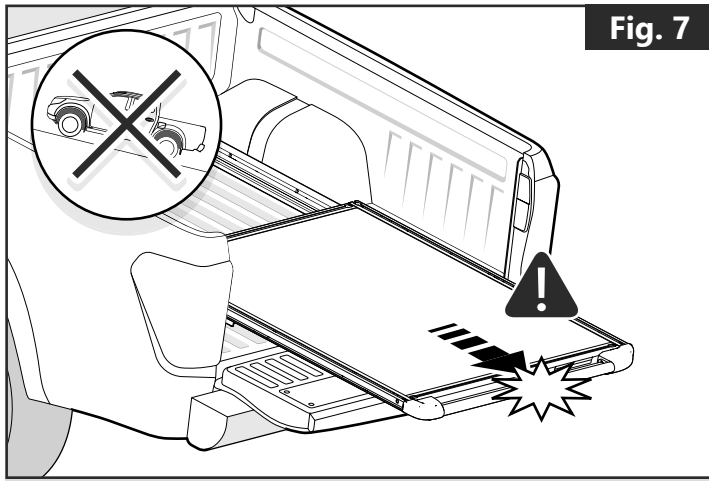

Fig. 7
- Do not release the locking mechanism when parked on an incline if loaded. **(Fig. 7)**